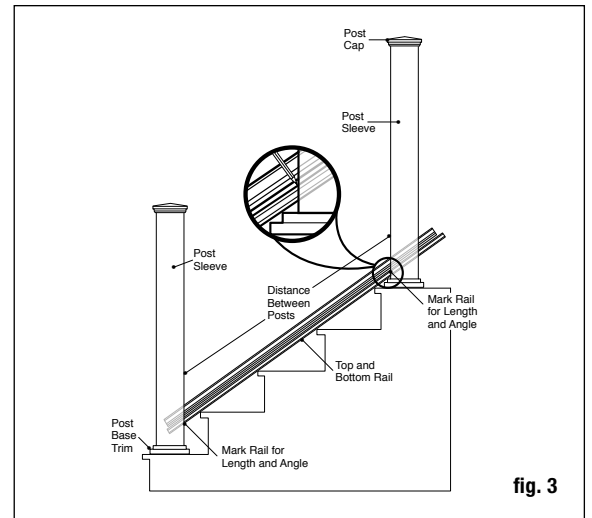

fig. 3
Step 5 Measure the distance between installed posts to determine the length of the top and bottom rails. Lay bottom rail on stairs with the predrilled holes facing down. The distance between the post and the first baluster should be less than 4" and equal on both ends. Mark the angle and length. Do the same with the top rail. Remove an additional 1/4" on both ends (1/2" overall) for the bracket to fit between the rail and post. Trim the top and bottom rails to length with the same angle (fig. 3).